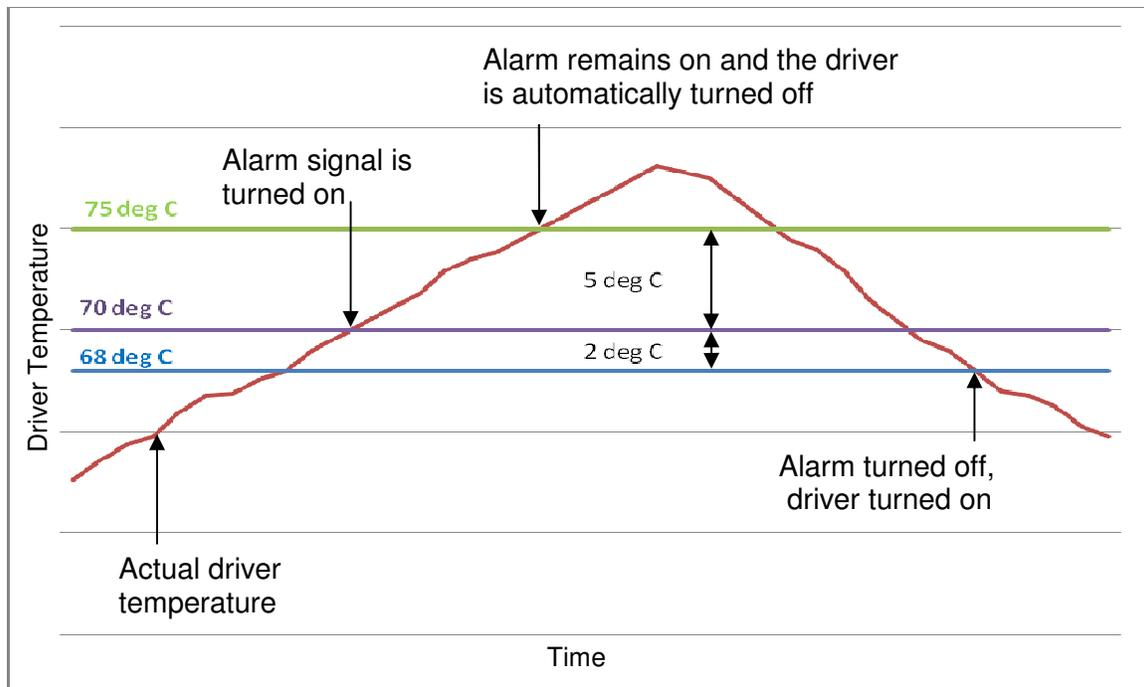

Figure 6.0
For details on the over temperature alarm, see Figure 6.0.
8. Over Temperature Shutdown - Determines whether or not the DMX-K-DRV-23 disables when the temperature rises above a specified threshold. See Figure 6.0 for details.